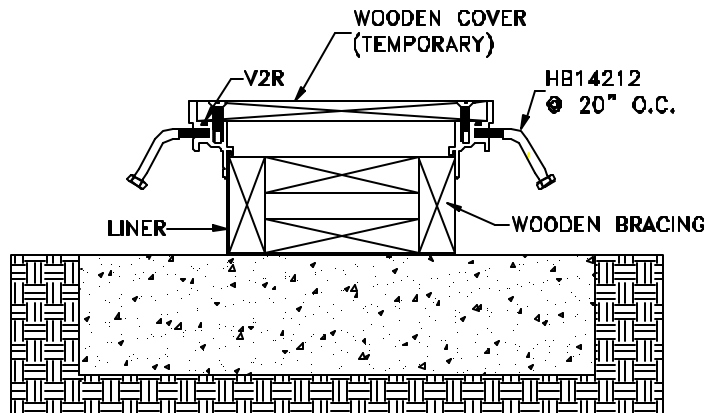

Figure 6
STEP 7. Provide continuous wooden bracing inside the trench liner (see Figure 6). This will help ensure that the assembly maintains its shape during the pouring, finishing and curing of the concrete.
STEP 8. Place a temporary wooden cover (plywood is recommended) into the frame, attaching it to the frame as shown in Figure 6. This procedure is recommended to protect the cover plate from concrete splatter during the pouring and finishing of the concrete.